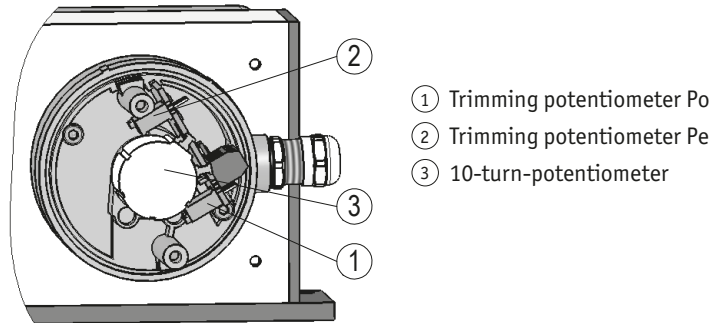

Fig. 16: Setting the trimming potentiometers MWI
Via two trim potentiometers P_e (2) and P_o (1) (see Fig. 16) these values can be adjusted to the application's actual start and end position.